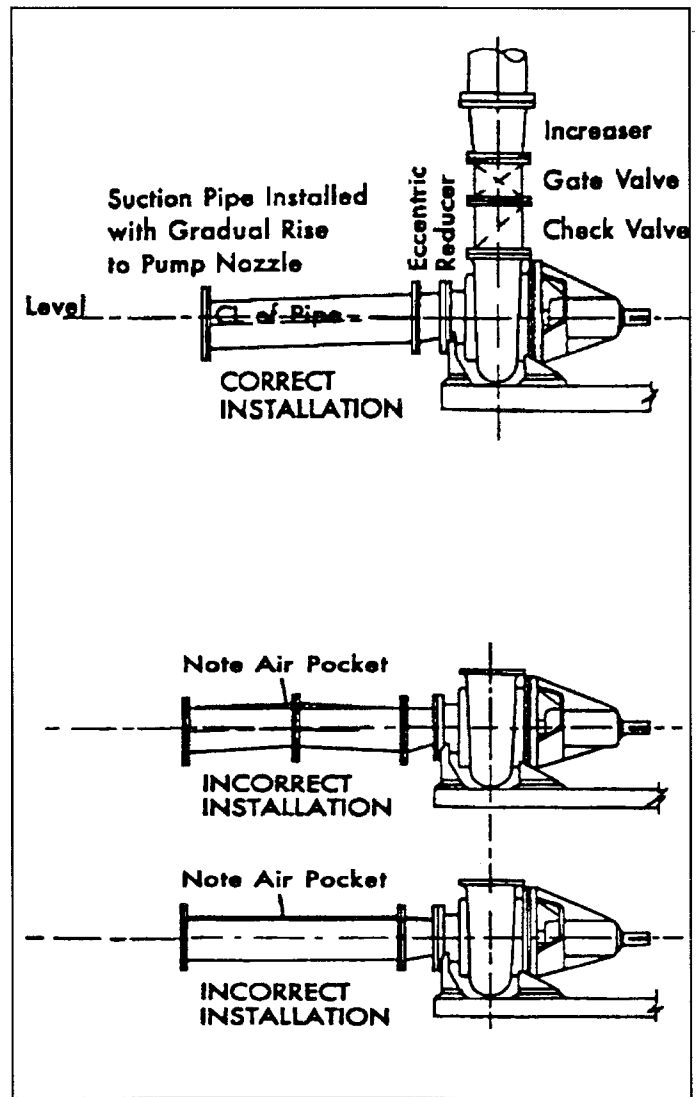

Fig. 4. Suction Piping Installation
General: When installing the pump piping, be sure to observe the following precautions: (See Fig. 4).
**Suction Piping:** When installing the suction piping, observe the following precautions (see Figure 4).
**Flushing and Lubrication Water.** The recommended method to minimize error in regulating flushing water is the "Controlled Pressure System" as shown in Figure 4. Most important is the pressure reducing valve which may be adjusted to a value slightly exceeding the stuffing box operating pressure. A flow indicating device is advisable that will serve to indicate a failing of the bottom packing rings allowing leakage into the pump. With this arrangement, the packing gland need be tightened only against the lowest necessary pressure. The "out" connection from the stuffing box should be closed with this system. Longer packing